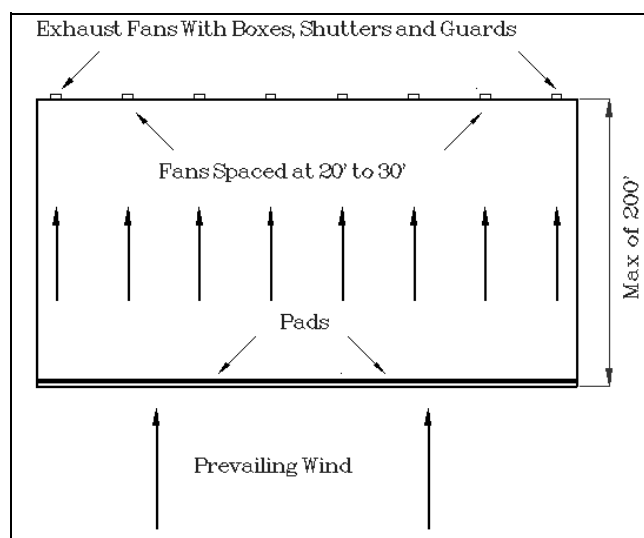

Figure 1. Typical pad-fan greenhouse arrangement.
The basis of any evaporative cooling system is the evaporation of water into an airstream. The most common way of accomplishing this is the fan and pad system shown in Figure 1.
- A correctly designed pad system is essential to achieve maximum cooling performance. It must be a continuous section along the entire side or end of the greenhouse, be the correct size and thickness. A blank space in the pad, such as a doorway, will cause a hot spot through the house for a distance of 6 to 8 times the width of the blank. Exhaust fans should not be spaced more than 20-30' apart (Figure 1).